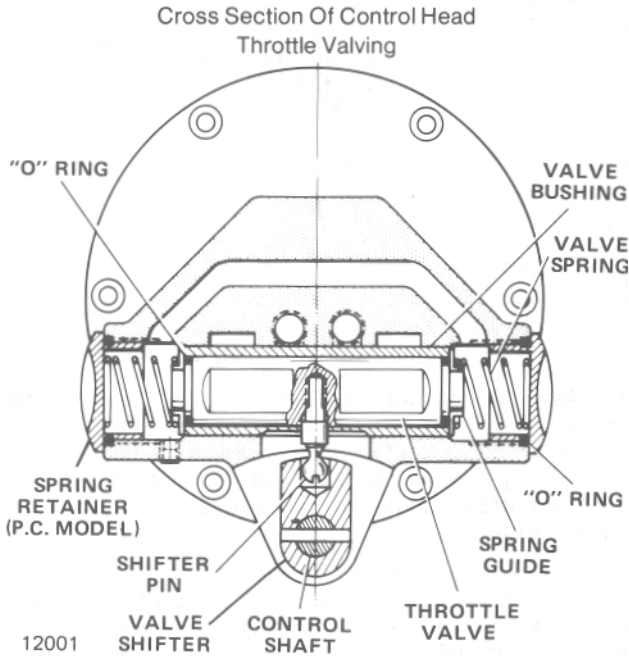

Figure 7-13. Section View Showing Assembly of Throttle Valve, Springs and Valve Shifter in Control Head.
remove throttle valve spring retainer caps from each side of housing (Figure 7-13). Valve springs, spring guides and "O" ring seals can now be removed from valve bore at each side of housing.
(4) The throttle valve is retained in the control head by the valve shifter pin. The pin is assembled with LOCTITE on the threads and should not be removed for routine servicing. If valve is to be removed, use a hex key to remove pin from bottom of throttle valve. (See Figure 7-13.) The valve can now be removed from bushing in housing. The throttle valve bushing is pressed into place and honed to provide a .0001 to .0003 inch clearance with valve. If bushing is scored, worn, or otherwise damaged, the housing and bushing assembly should be replaced along with the valve.
(5) Remove air inlet swivel body and bushing from top of housing. Retain bushing gasket for reuse. Pull strainer screen from housing bore.
(6) Remove retaining ring from bottom of swivel body and pull off bushing. Remove "O" ring seal from its groove in bushing.
(7) Disassemble control cylinder (pendant throttle control models) by removing cylinder lock ring. Cylinder and cap will come off with lock ring. Lift out spring and then remove piston and seal assembly from cylinder. Piston shaft "O" ring seal and retainer washer will drop out as piston is removed.
(1) Lightly oil throttle valve and bushing with S.A.E. 20 oil. If shifter pin was removed from valve, assemble valve with threaded hole facing slot at bottom of bushing in housing (Figure 7-13). Shifter pin should be assembled with LOCTITE, Extreme care must be taken not to get any LOCTITE on valve outside diameter since this will lock up valve and scrap the complete head assembly.